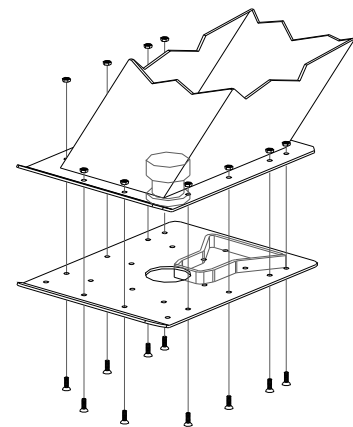

Figure 2
FOR KING PIN BOXES WITH A FLANGE: (Figure 2).
3. Install fastener (A) using a small frame clip. See enlarged drawing in Figure 2. Finger tighten only.
4. Install fastener (B) using a large frame clip, see figure 2. Finger tighten only.